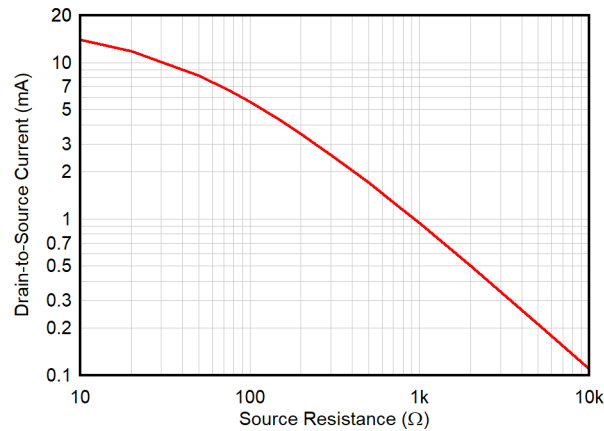

图 9-4. Drain-to-Source Current vs R_S , $V_{DS} = 5\text{ V}$
amplifiers at the same current consumption. The bias current (I_{DS}) is set by the value of the source resistor, R_S , and the threshold voltage, V_T , of the JFE2140. A graph showing nominal I_{DS} vs R_S is shown in 图 9-4.
R _{S2}	Bias-current setting resistor. This resistor, along with R _{S1} , determine the bias current when using resistive biasing (see 图 9-4). Note both R _{S1} and R _{S2} resistance will directly impact noise performance.
- The bias current is set by selecting the desired bias current and noise tradeoff (see 图 6-16). To set the bias current point, adjust the source resistance according to 图 9-4.